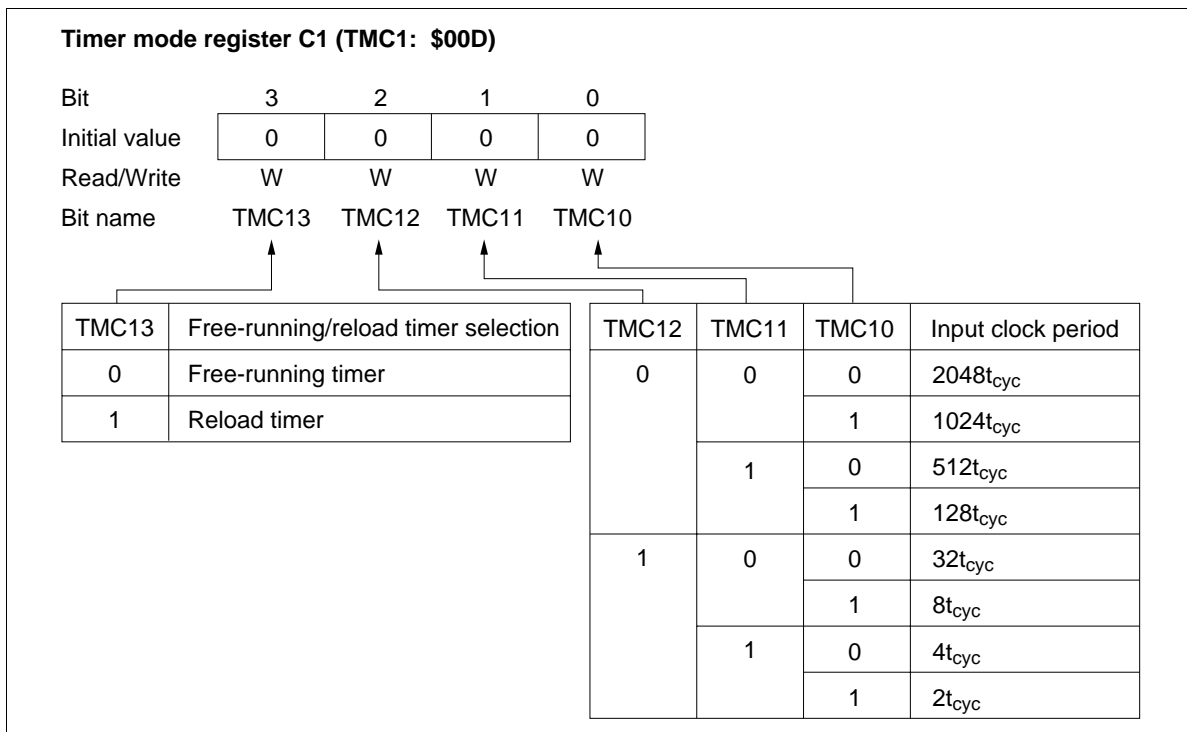

Figure 34 Timer Mode Register C1 (TMC1)
- **Timer mode register C1 (TMC1: \$00D):** Four-bit write-only register that selects the free-running/reload timer function, input clock source, and the prescaler division ratio as shown in figure 34. It is reset to \$0 by MCU reset.